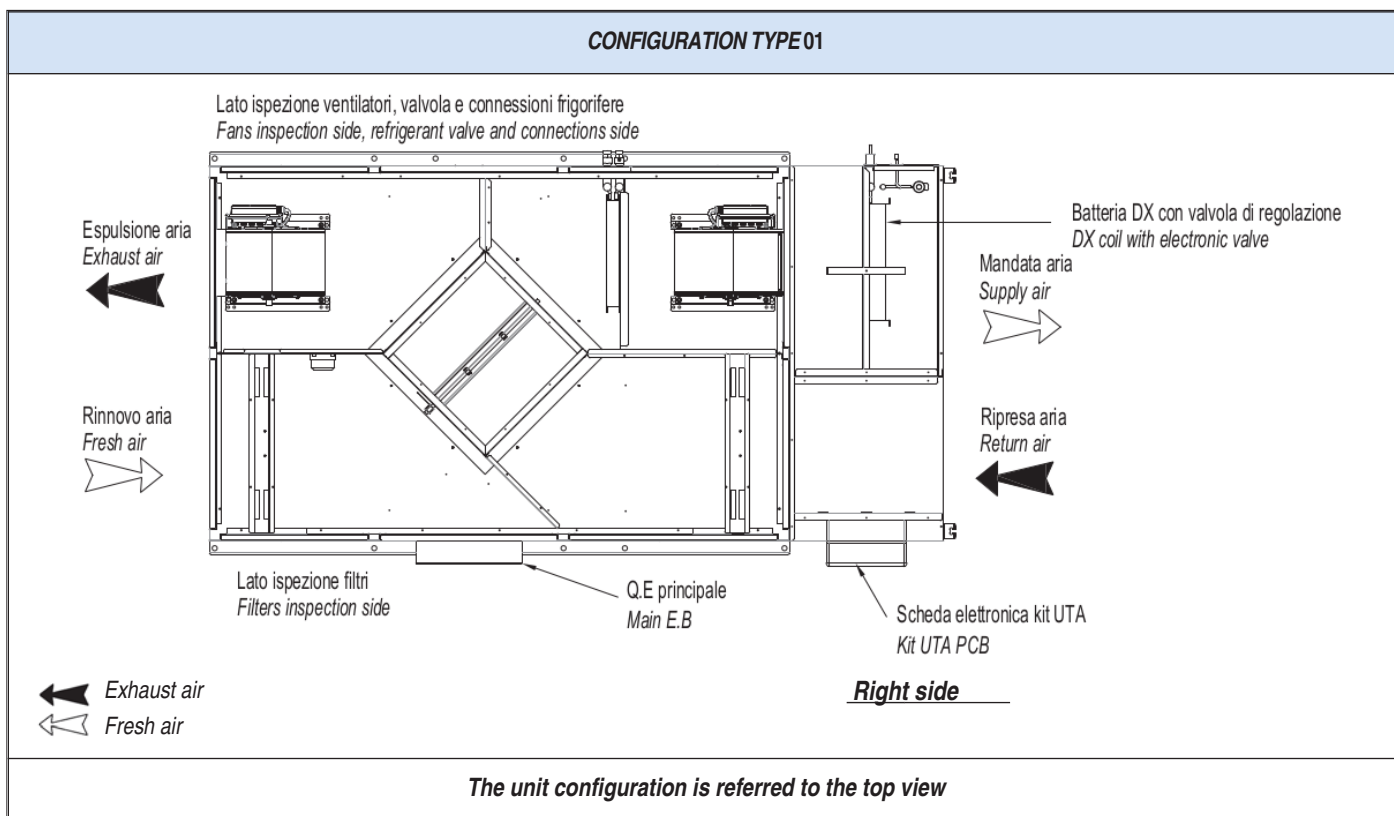

fig. 1
4.4 IMOT CONFIGURATION (FIG.1)